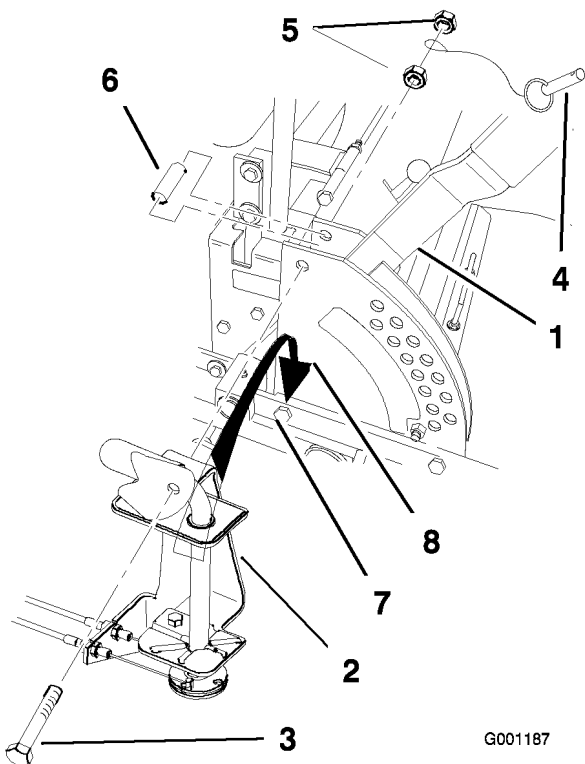
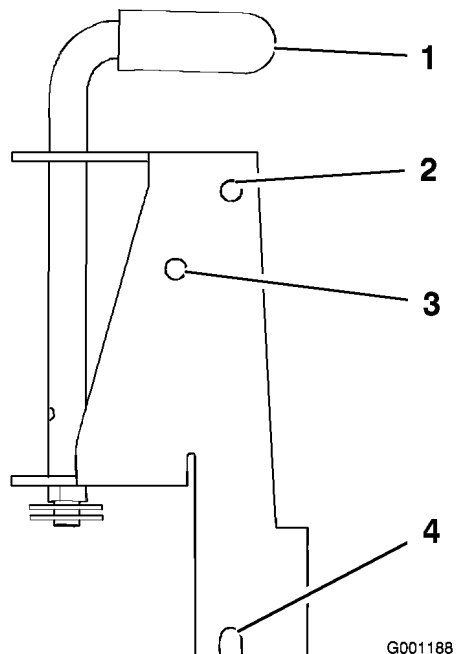

Figure 3
Figure 4
1. Remove the top bolt that holds the height-of-cut panel and pin with lanyard to the machine (Figure 3). Discard the bolt.
2. Loosen the bottom bolt that holds the height-of-cut panel to the machine (Figure 3).
- Slide the slot at the bottom of the handle assembly in between the bottom bolt head and the height-of-cut panel (Figure 3 and Figure 4).
- Using the new bolt (3/8 x 3 inches) and hardware previously removed, install the handle assembly to the outside of the height-of-cut panel (Figure 3). See Figure 4 for the correct hole to use in the handle assembly.